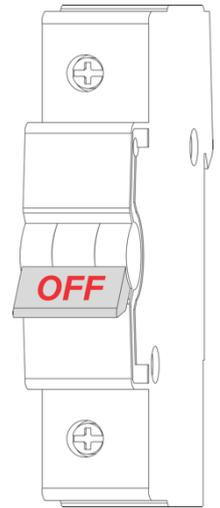
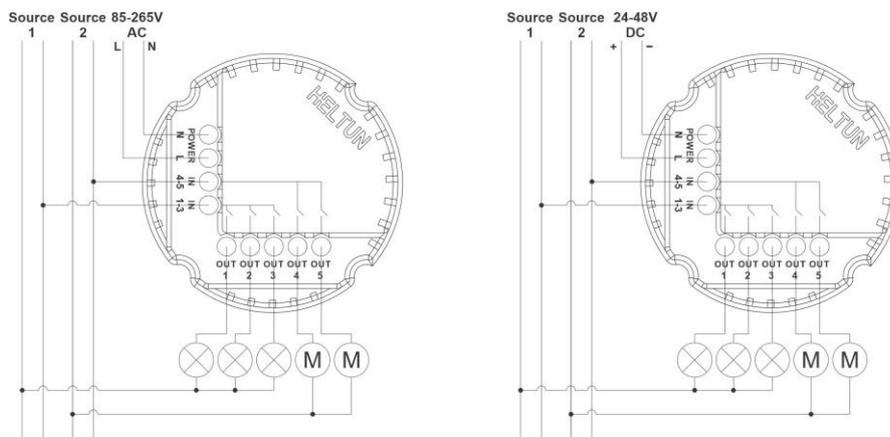

Figure 1:
Figure 2: Connection Diagrams
3. **FIRST ENSURE THE POWER IS OFF** at the main circuit breaker (Fig. 1), and then test the wires with a probe or multimeter to verify. Insert the power wires to the HE-TPS04 "POWER" terminal by inserting a small Phillips-head screwdriver in the slot beneath each terminal and unscrew to open. Follow *Fig. 2: Connection Diagram* and instructions below:
- **Power wires:** for AC power (85-265VAC) connect Line & Neutral wires to L & N terminals labeled "POWER" (Fig 2. left diagram). For DC power (24-48VDC) connect "+" wire to terminal N and "-" wire to terminal L (Fig 2. right diagram).